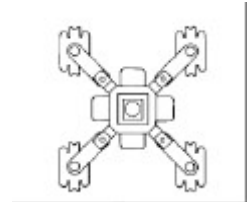

fig.1
- all 4 wheel arms of dolly must be completely swung out and locked (see above illustration fig.1).